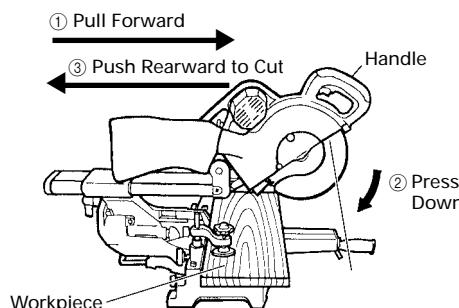

Fig. 28
Then press down on the handle and slide the saw blade back to cut the workpiece as indicated in Fig. 28. This facilitates cutting of workpieces of up to 3-11/32" (85mm) in height and 12-9/32" (312mm) in width.
- \* For slide cutting, follow the procedures indicated above in Fig. 28.